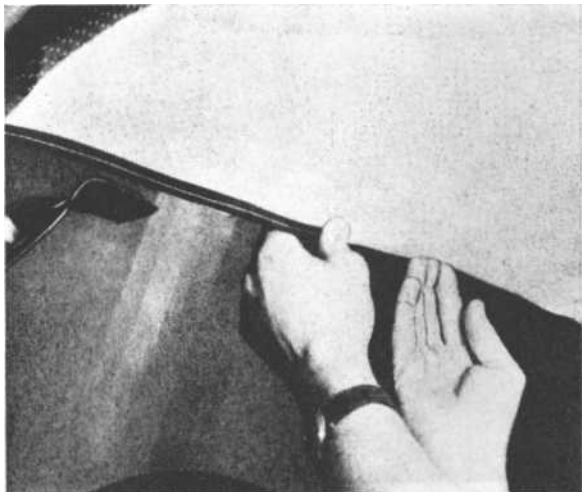

Fig. 74. Folding over and fitting the plastic strip
7. Fold over the plastic strip and fit above the windscreen as shown in Fig. 74.